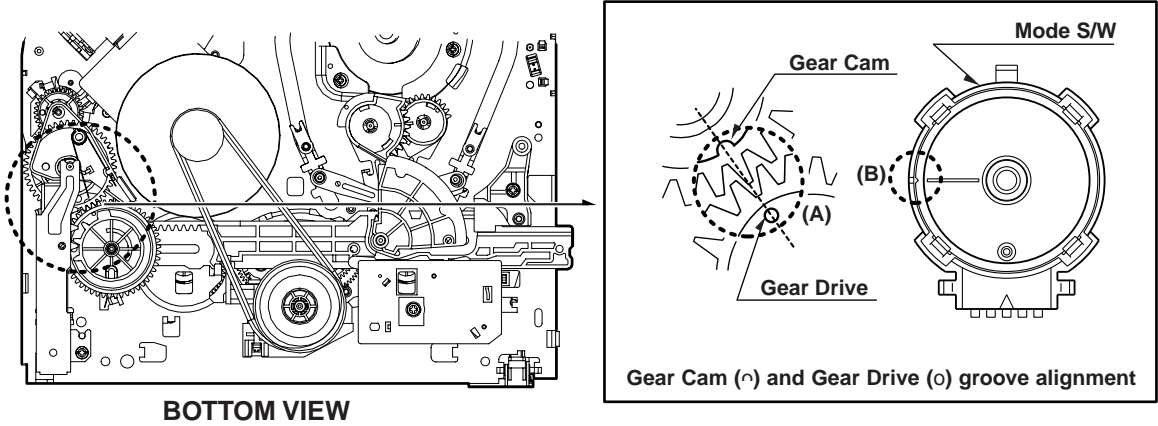

Fig. C-1
- the Gear Drive as below Fig. C-1(A).
5) Confirm if the Mode S/W on the Main P.C.Board is aligned as below Fig. C-1(B).